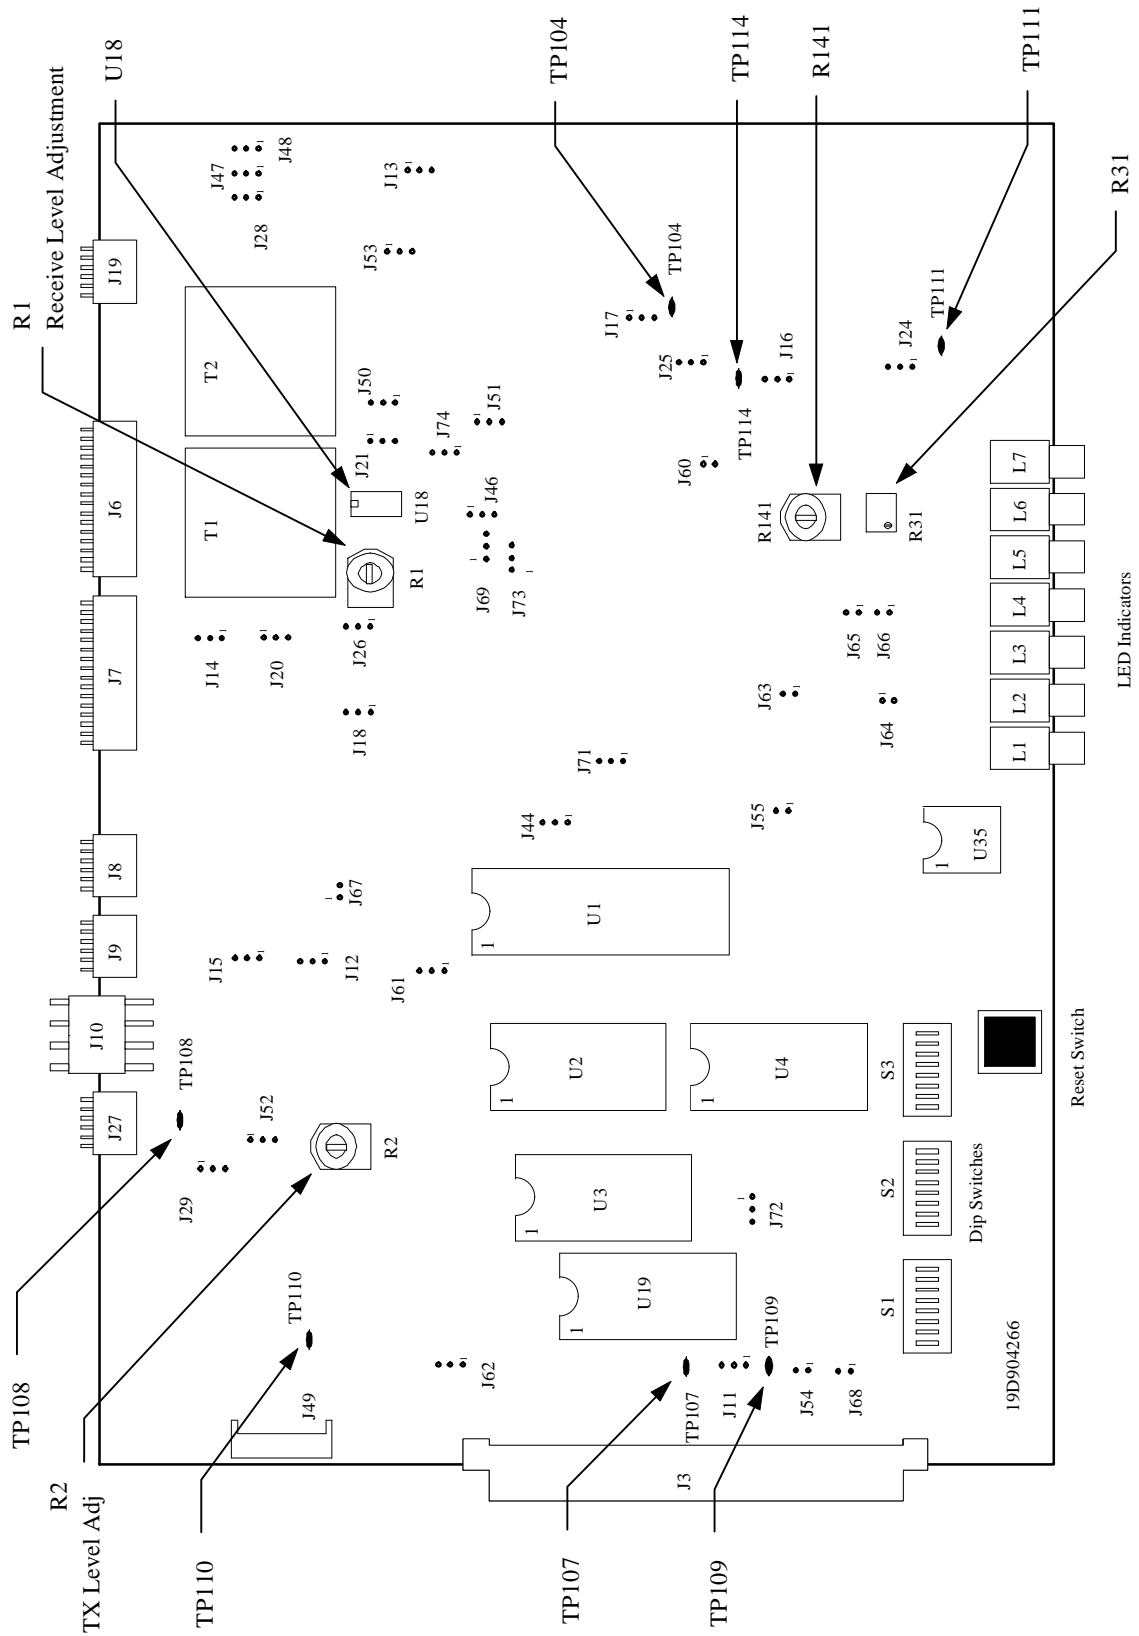
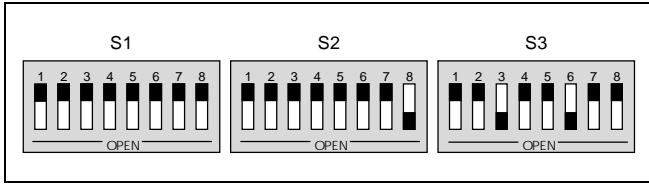

Figure 6 - Station GETC (19D904266) Jumper and Test Point Locations
Figure 8 - Programming DIP Switch Settings
There are a few jumpers on the GETC Logic Board which must be re-configured for different applications. To properly configure the GETC jumpers, refer to jumper tables in SRN1060 or SRN1061 and install or remove jumpers according to the intended GETC application. The location of the jumpers may be found using the board layout diagram in Figure 6.
2. Set the GETC DIP switches S1, S2, and S3 for the programming mode as shown in Figure 8. Set S2-8, S3-3 and S3-6 to OPEN. All other S3 positions should be CLOSED. Switches S1-1 thru S2-7 can be in any position and need not be changed. DIP switches S1-S3 are located near the front of the GETC Shelf, see Figure 6.
3. Reset the GETC by either applying power or pressing the GETC RESET switch S4, see Figure 6, located just below the DIP switches. Resetting the GETC, in